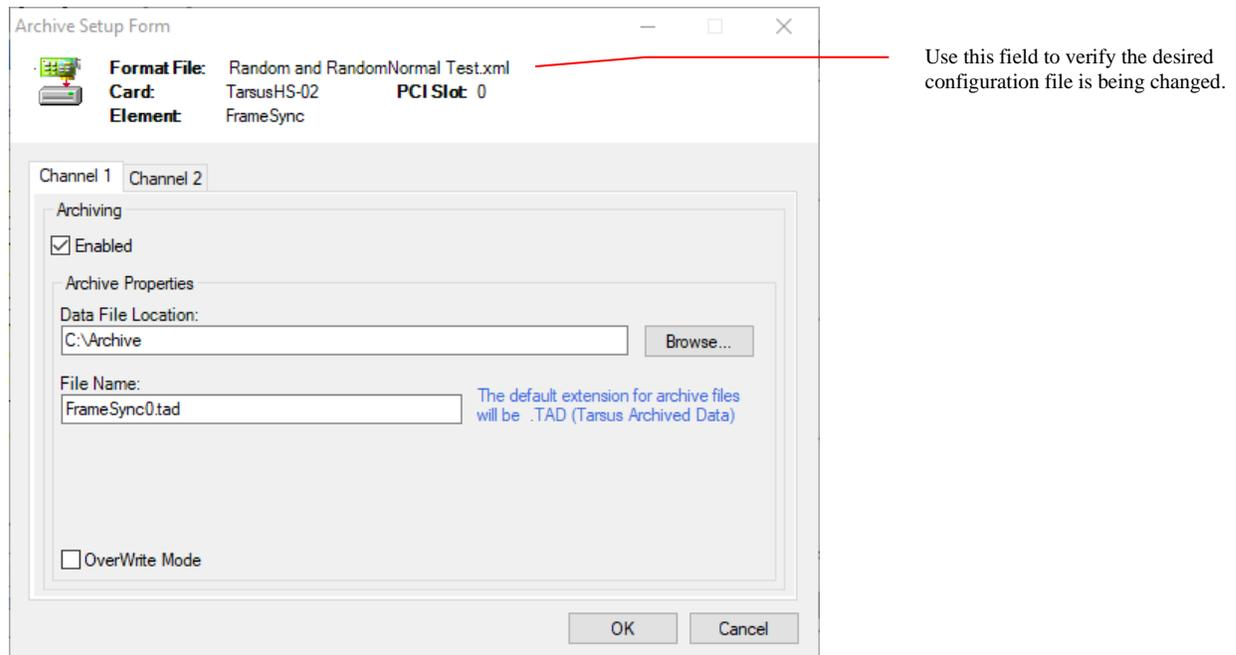

Figure 78 – Archive Setup
- b. Select a Frame Sync in the Hardware Explorer window and then selecting the menu option *Archive/Setup*. The Archive setup screen will be displayed. (See Figure 78 – Archive Setup below.)